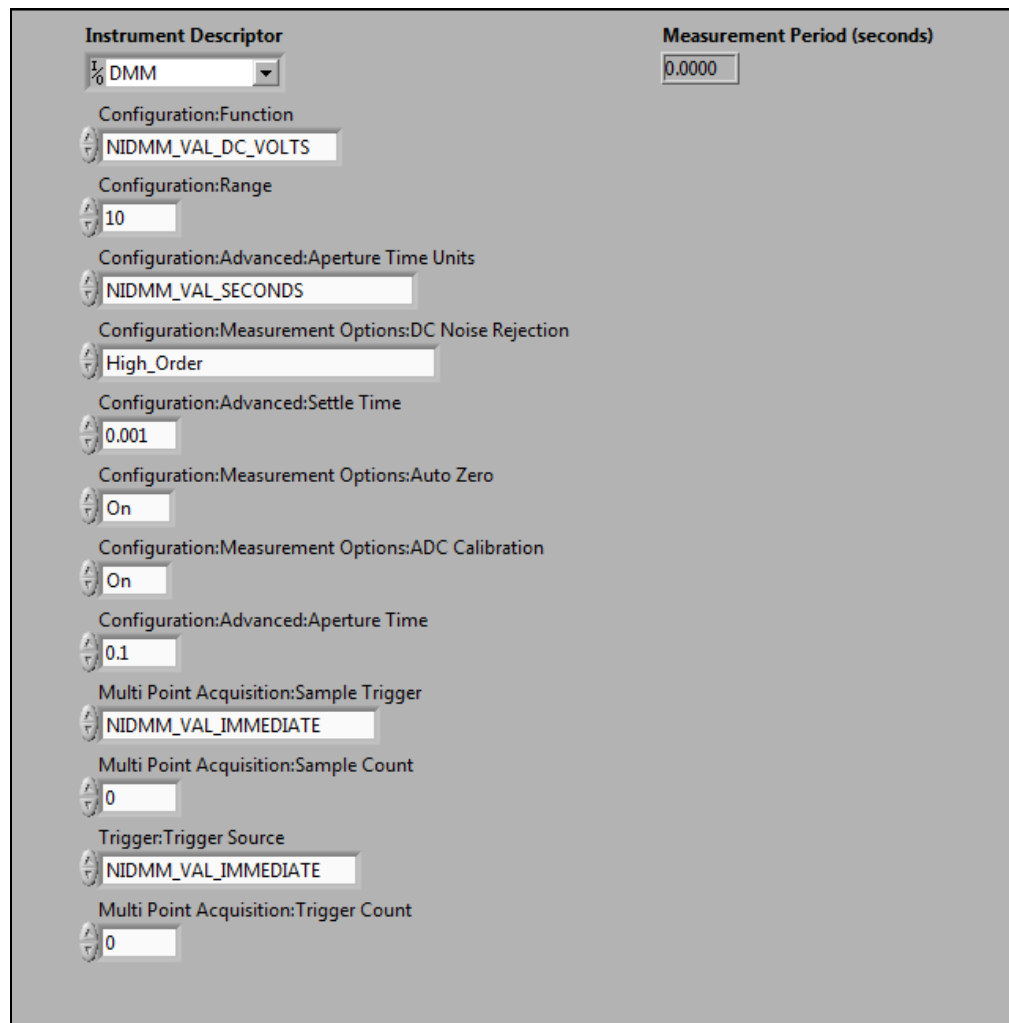

Figure 3-7. Advanced Multi-Point Benchmark VI Front Panel
3. Arrange your front panel to look similar to the one shown in Figure 3-7:
This measurement period is the same because all three measurements have the same configuration. In a multi-point acquisition, the total number of measurements is equal to the Sample Count multiplied by the Trigger Count. In the configuration shown in Figure 3-7, both the Sample and Trigger Counts are set to 1 which corresponds to a single-point acquisition as in Parts 1 and 2.